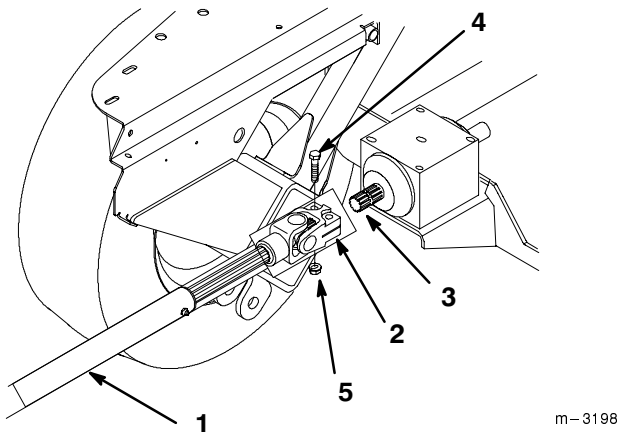

Figure 29
15. Remove (2) 3/8"-16 x 1-5/8" (41.5 mm) bolts and 3/8"-16 locknuts from universal joint and slide the driveshaft off gearbox shaft (Fig. 29).